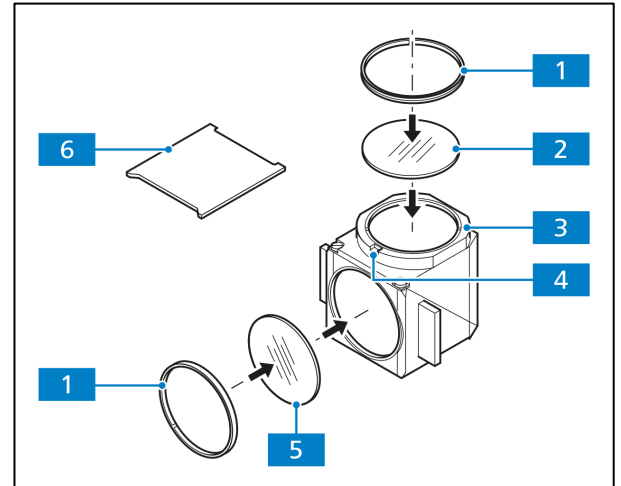

Fig. 3-42 Changing the filters in the reflector module FL P&C
- Remove the reflector module FL P&C (Fig. 3-42/3) from the reflector turret (see also section 3.1.6).
- Unscrew the adapter ring (Fig. 3-42/1) with the mounting plate included with the tools (Fig. 3-42/6).
- Turn over the reflector module and let the filter (Fig. 3-42/2 or 5) drop onto a soft surface.
- Insert the emission filter (Fig. 3-42/2) or the excitation filter (Fig. 3-42/5) respectively at the position shown in Fig. 3-42.
- Fix the filters with the corresponding adapter ring (Fig. 3-42/1).
The emission filter and excitation filter usually have a name and an arrow on their rims. The arrow indicates the direction of insertion and must always point to the inside of the reflector module (see arrows in Fig. 3-42). To minimize the image offset in multiple fluorescence images, the emission filter may have another mark to level the point angle.
When mounting the appropriate emission filter in the according reflector module, the mark should be aligned with the orientation groove (Fig. 3-42/4). This guarantees that the point angle in the reflector modules acts equally and compensates or minimizes the image offset – already low in ZEISS filter sets – even further.